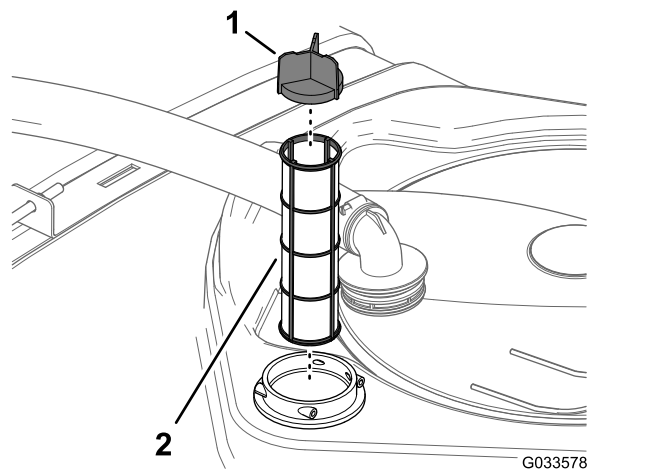

Figure 30
4. Pull the suction strainer out of the filter housing in the tank (Figure 30).